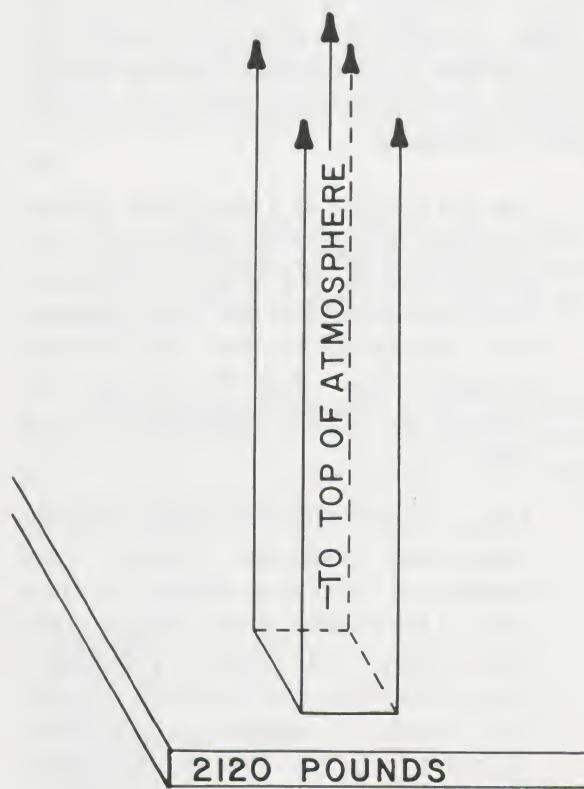

Figure 21.
You have seen that pressure in a liquid depends on both its density and the depth. The same is true for gases. We live at the bottom of an "ocean" of air, and the pressure of the atmosphere is significant. However, the density of the atmosphere varies with altitude, so Equation (7) can't be used to compute air pressure. Figure 21 shows that a column of air 1 ft2 in cross-sectional area, and extending to the top of the atmosphere, weighs over a ton! The pressure at the bottom of this column can be calculated.